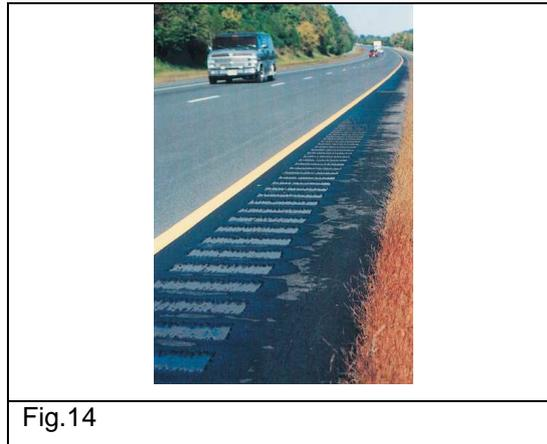

Fig.14
- Are you aware of shoulder rumble strips (see Fig. 14)?
Shoulder rumble strips with elevated strips (contrariwise as Fig. 14).